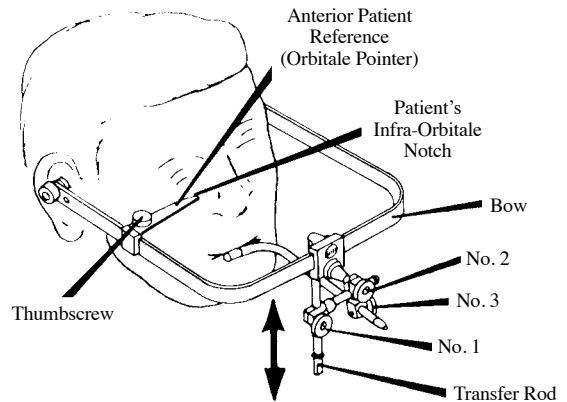

Figure 10
7. Slightly loosen the spring loaded Thumbscrew that secures the Anterior Patient Reference, Figure 10. Carefully rotate this Reference (Orbitale Pointer) to a proximity with the patient’s infra-orbitale notch.